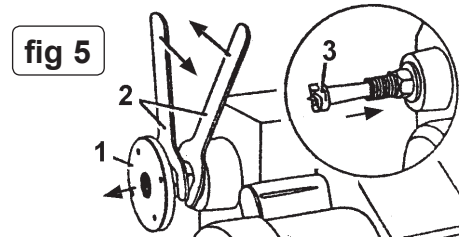

fig 6
- 3.4.3. Insert the tailstock centre (fig 6. 4) in the tailstock hole.
- 3.4.4. To remove headstock spur, insert push rod (fig 6. 5) into hole (6) at the rear of the headstock